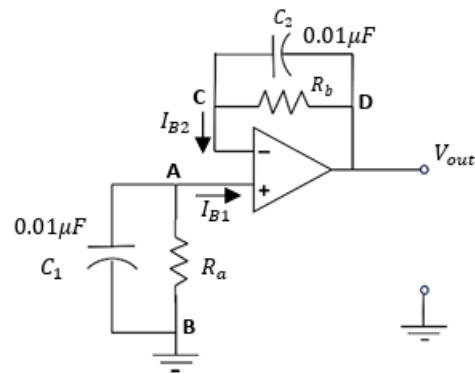

FIGURE 6
1. Connect the unity gain buffer circuit as shown in Figure 6.